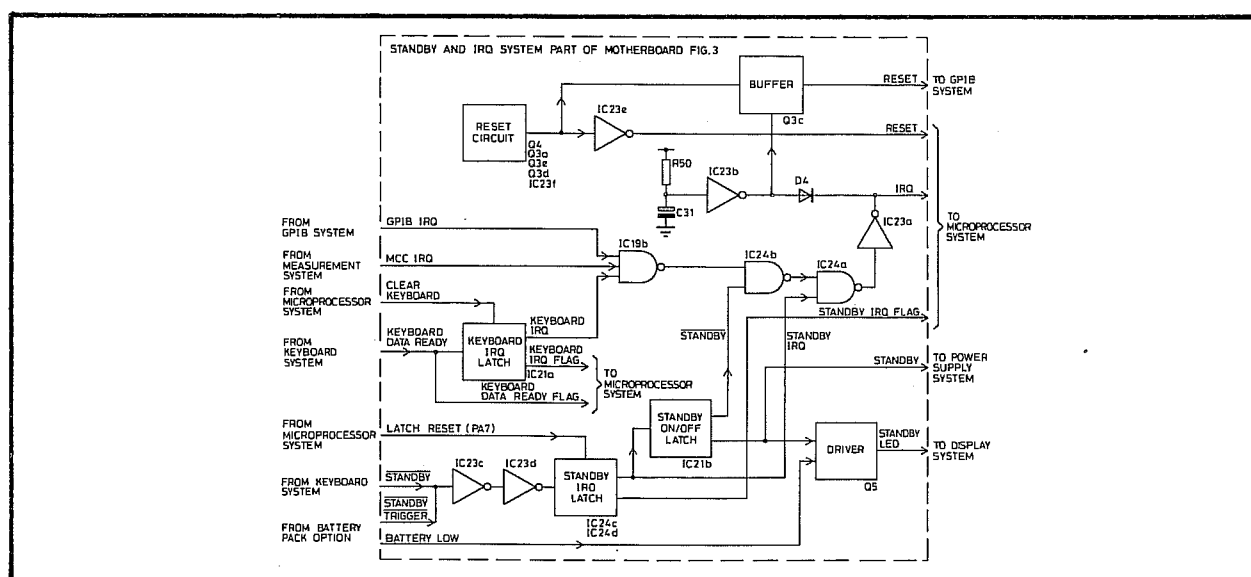

Fig. 6.14 The Standby and IRQ System
- 131 The system generates reset signals for the microprocessor and GPIB interface, and the standby switching signal for the power supply system. It also combines the IRQ signals from the GPIB interface, the measurement system and the keyboard system for connection to the microprocessor. A block diagram is given in Fig. 6.14.